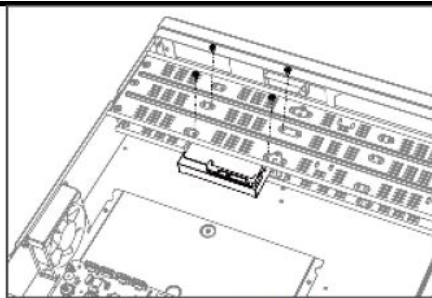

Figure 2-5 Fix HDD
STEP 2 Fix the HDD on the bracket with screws. Refer to Figure 2-5.